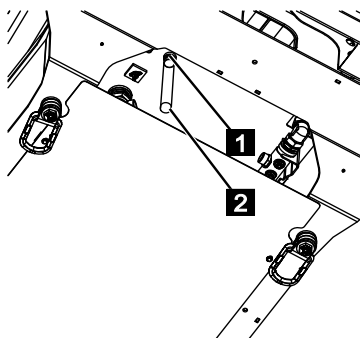

Fig. 241
4. Place a suitable container under the oil drain plug (Fig.241/1).
5. Open the cap on the oil drain plug (Fig.241/1).
6. Screw the oil drain hose (Fig.241/2) onto the oil drain plug. This opens the threaded connection and allows the hydraulic oil to drain.